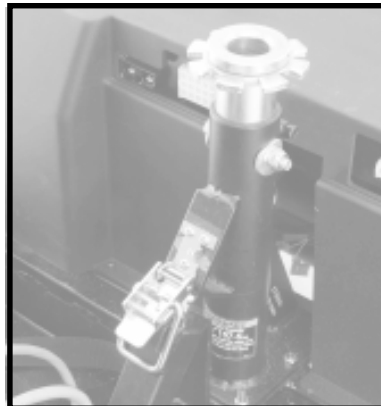

Figure 21. Toggle Latch (Unlatched)
5. Secure the toggle latch. See figure 21.